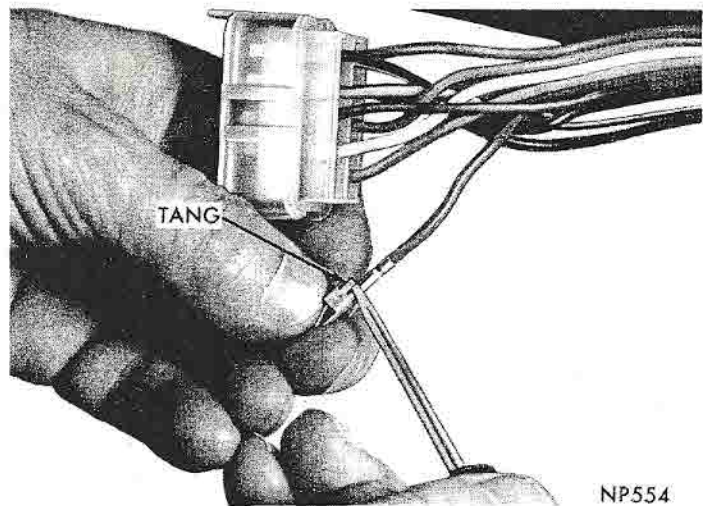
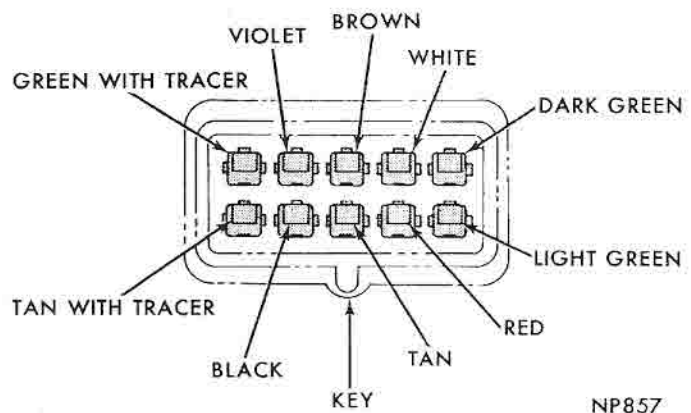

Fig. 10—Spreading Tang on Wire Terminal
Fig. 11—Turn Signal Color Code
(13) Position turn signal switch in bearing housing, install switch retainer plate and secure with the three screws.
(14) Bend turn signal wiring terminal tangs outward slightly (Fig. 10). Then install wires in their proper location in the connector (Fig. 11). Install wiring trough and secure with the two screws.